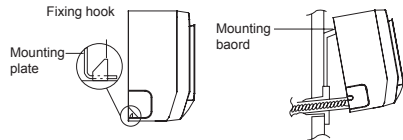

Fig.12
(3) Hange the mounting slots of the FCU on the upper tabs of the rear panel and check if it is firm enough.(As show in Fig.12)